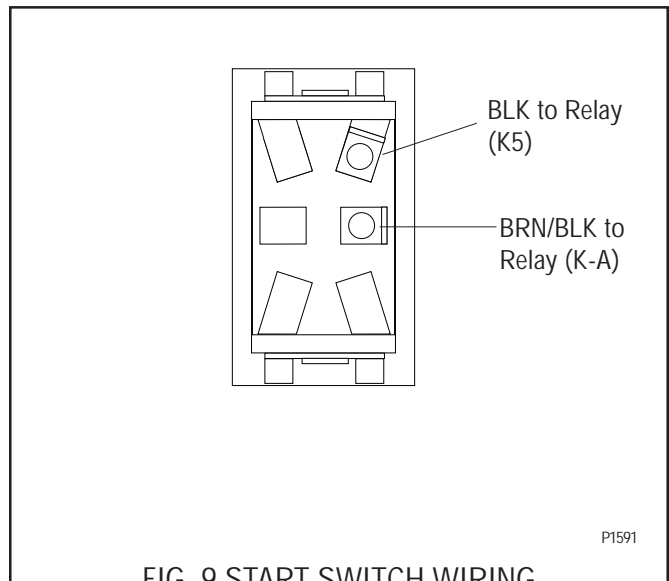

FIG. 9 START SWITCH WIRING
4. Refer to FIG. 9 when reconnecting the wires.